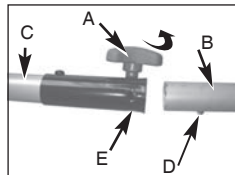

Fig. 2A
1. Turn the knob (A) counterclockwise to loosen (Fig. 2A).